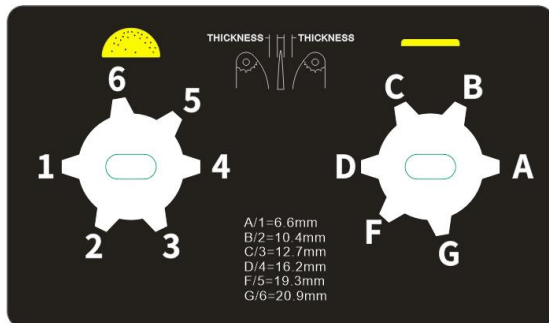

Figure2
- 1、 Adjust the bread thickness adjustment control (Figure 2) to the desired setting (depending on the supplier's bread).